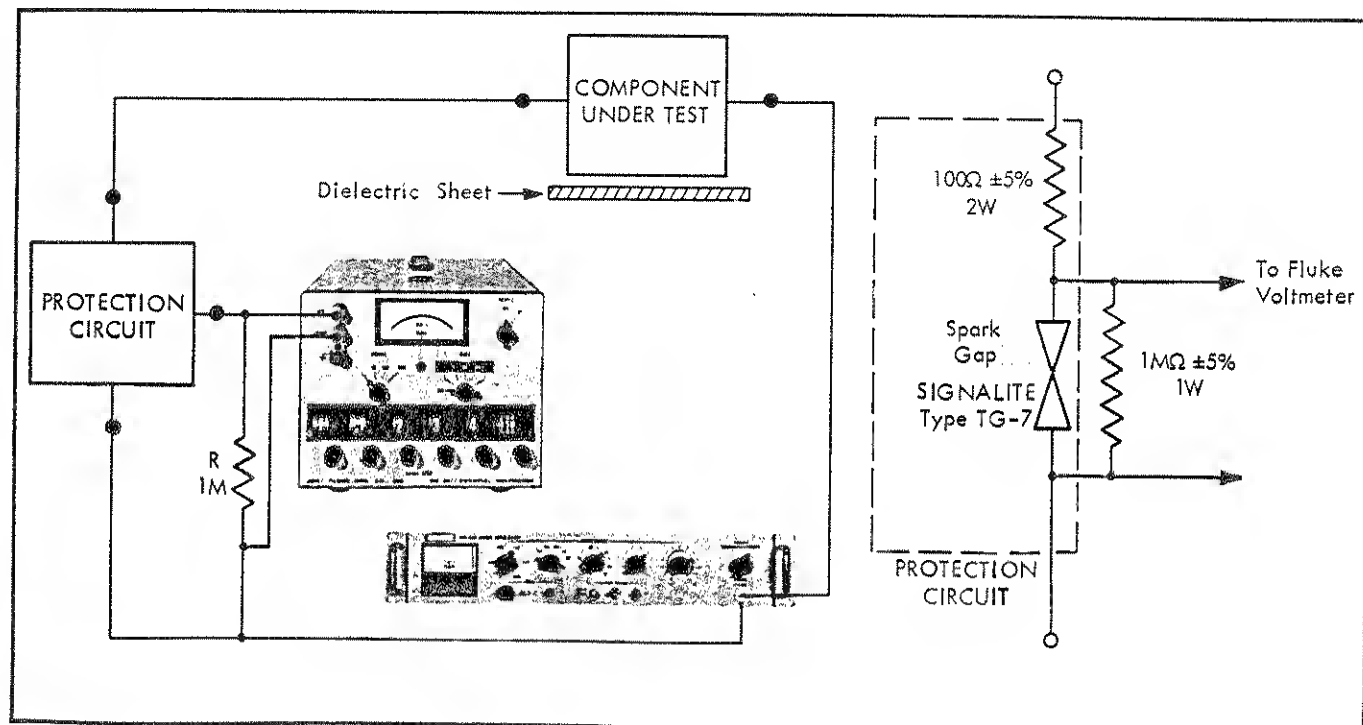

Figure 2-4. LEAKAGE CURRENT TESTING
- a. Connect the equipment as shown in Figure 2-4. The protection circuit shown in Figure 2-4 provides protection to the voltmeter by limiting the input to less than one volt in the event of a short in the component under test. The resistors must be non-inductive (composition, Allen Bradley type).